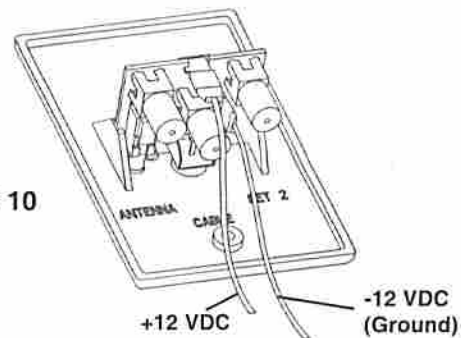
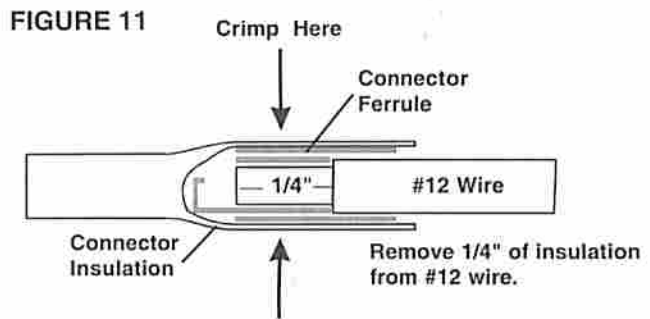
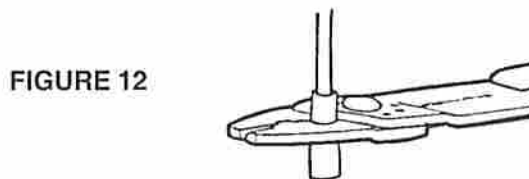

FIGURE 10
FIGURE 11
FIGURE 12
STEP 13: Make 12 volt connection to wall plate/power supply, Figure 10. Install terminals on wires from +12 VDC source, Figure 11. Crimp terminals with appropriate crimping tool or equivalent, Figure 12. Push wires onto tabs on terminal board as shown in Figure 10. If in doubt as to the polarity of the wires, connect them temporarily to tabs on circuit board and press ON switch on front of wall plate; if light comes on, polarity is correct, Figure 10.